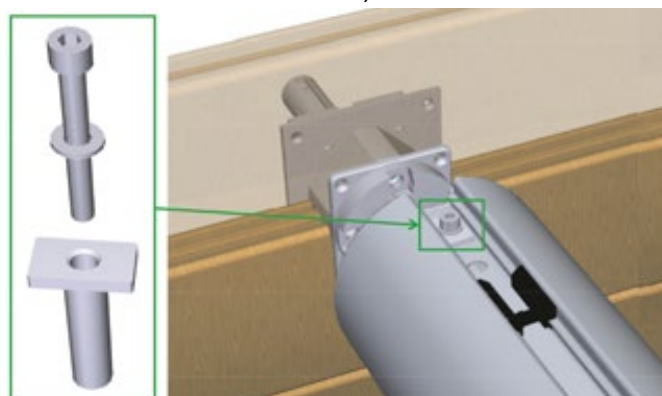

Figure 42 – Locking the shaft in the automatic cover axle
Lock the shaft in position in the axle (*Figure 42*) using a plastic canula, an 8 mm washer and a socket head cap screw 8×65 A4 SS (enclosed with the cover axle).
The beam assembly steps are illustrated in *Figure 42*. The screws required for assembly are enclosed in bag Y. In this figure, the wooden wall is located between parts 7 and 8, and the liner is sandwiched between the two rubber gaskets (7).